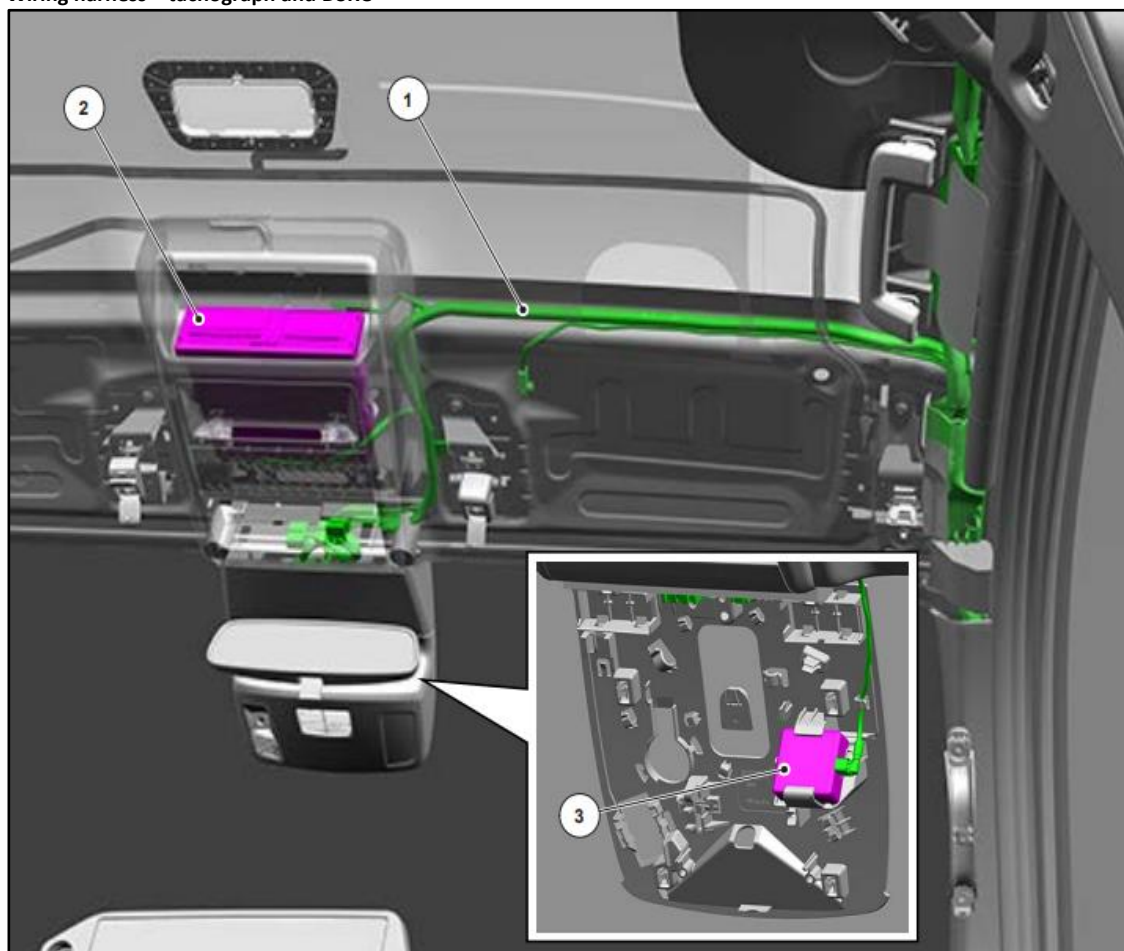

Fig. 2: Wiring harness – tachograph and DSRC
- Wiring harness – tachograph, see Figure 2 in chapter 4.11.2 for securing and cable guide
- DSRC wiring harness, see Figure 2 in chapter 4.11.2 for securing and cable guide